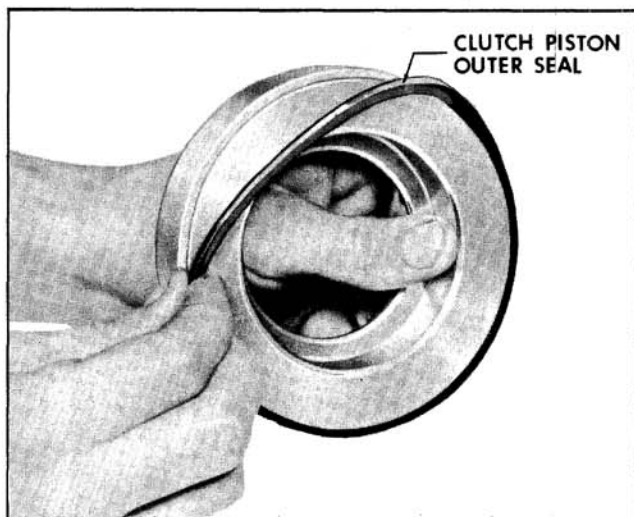

Fig. 6-437 Removing Outer Seal
10. Examine forward clutch piston outer seal. If nicked, torn or worn, remove seal. (Fig. 6-437)